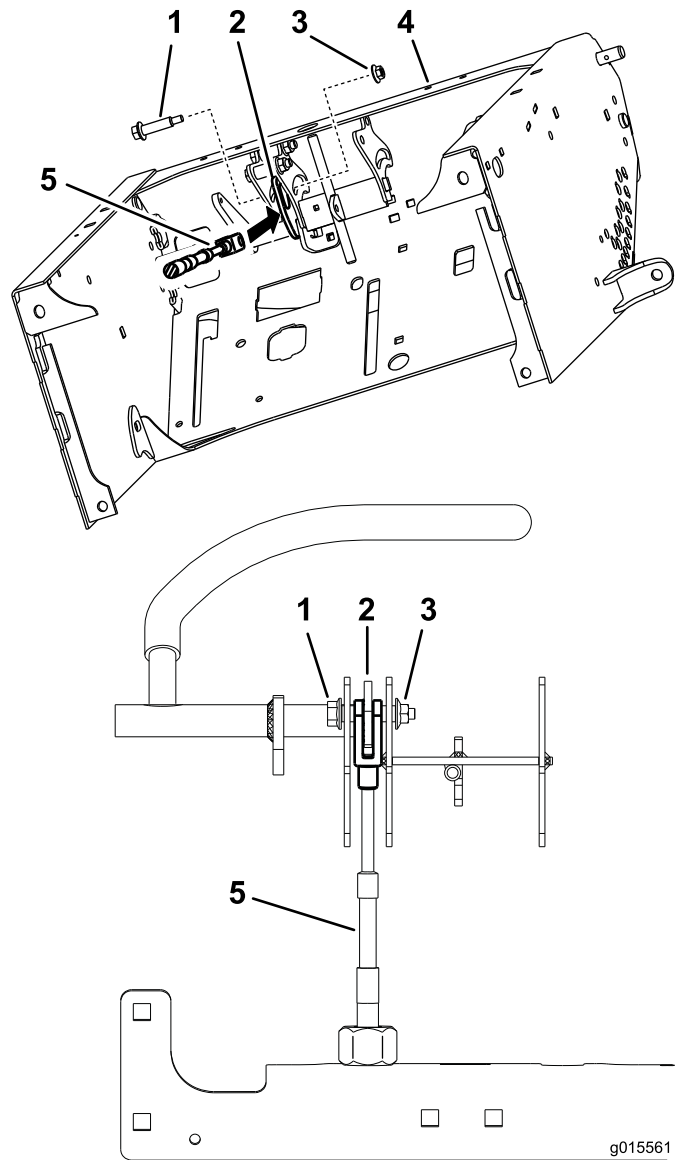

Figure 14
11. Connect the yoke to the motion control bracket with the new shoulder bolt and locknut (1/4 inch). Repeat for the opposite side (Figure 14).